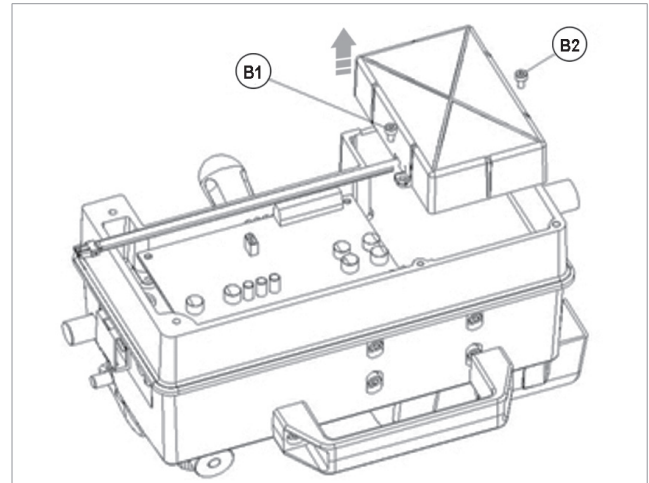

Fig. 41
- 4) Open screws (B1) & (B2) and pull out the battery (see Fig. 41)